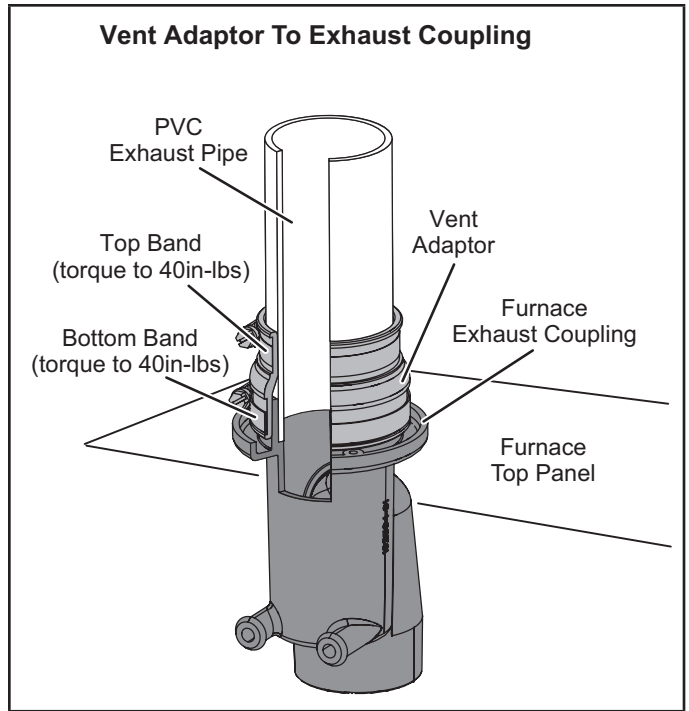

FIGURE 17
**NOTE** - Vent pipe must be installed with provided vent adapter. See figure 17.
**Exhaust Piping (Figures 17, 18, 20 and 21)**
- 4 - Tighten both top and bottom bands to 40in-lbs. See figure 17.